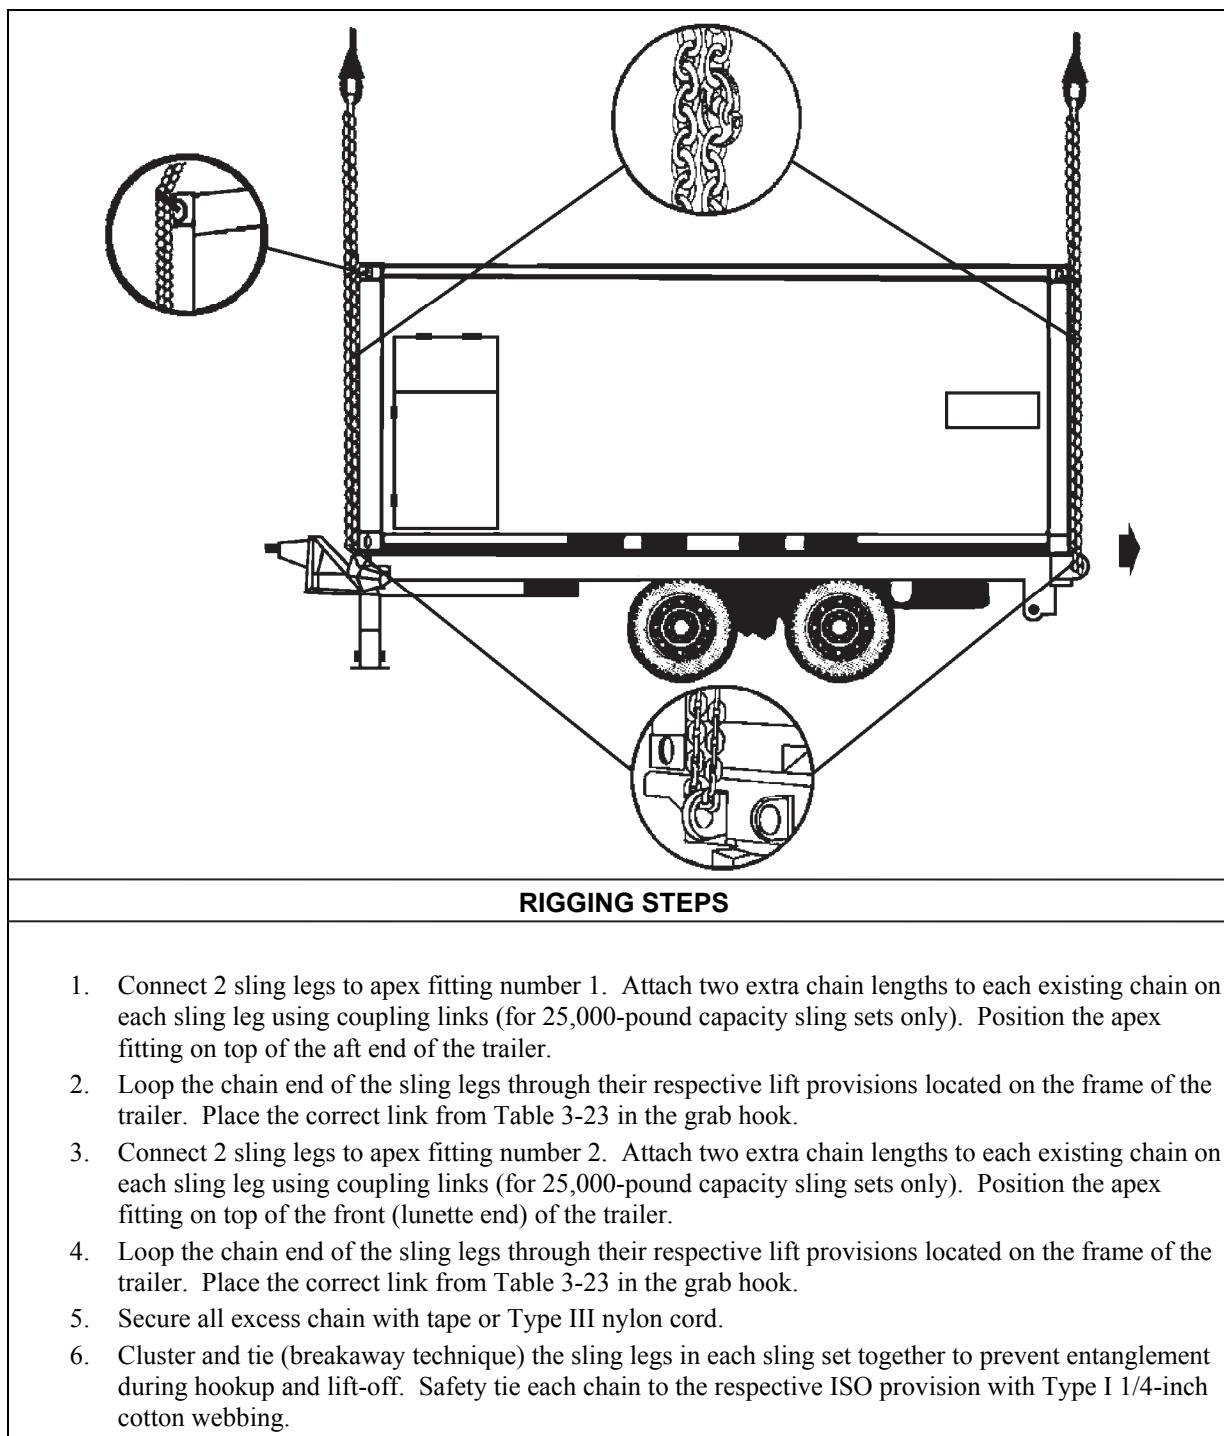

Figure 3-23. Standard Automotive Tools Set Mounted on SATS Trailer
- **Rigging.** Rig the load according to the steps in Figure 3-23.